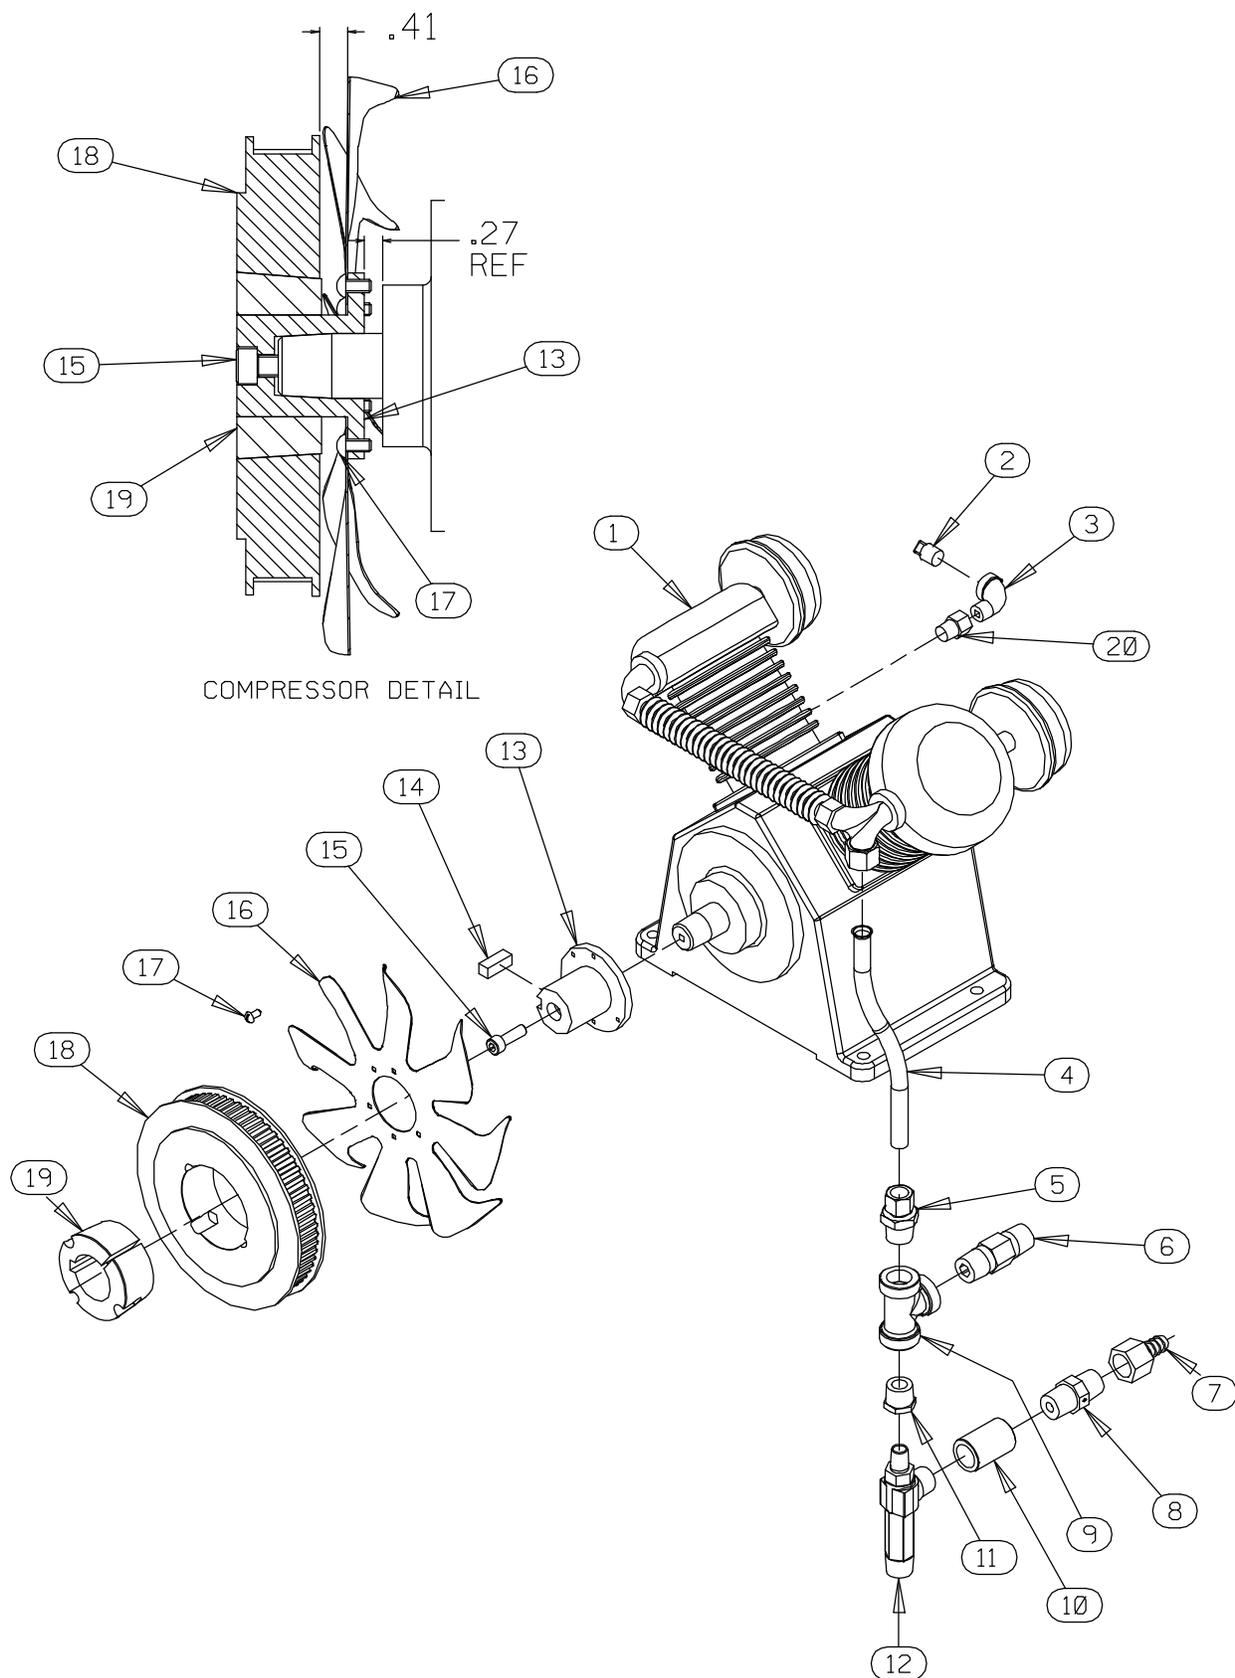

Figure 6. Air Compressor Assembly
Remove the hardware (17 and 18) and use a pry bar to raise the air compressor high enough to remove the spacers (45). Remove the belt (42) from the air compressor drive pulley (18, Figure 6).